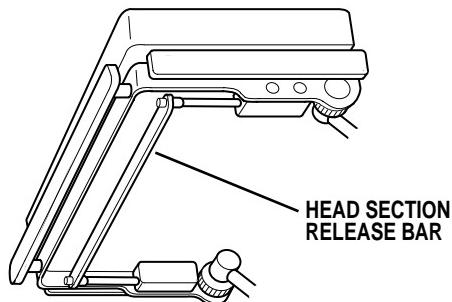

Figure 3-17. Head Section Adjustment
a. A quick release positioning bar located under and to the front of the head section (figure 3-17) is used to raise or lower the head section. Pull the release bar toward the head end to allow the section to pivot up or down. Positioning from 60° above horizontal to 90° below horizontal in 15° increments is available. Release the bar to lock the head section in position.